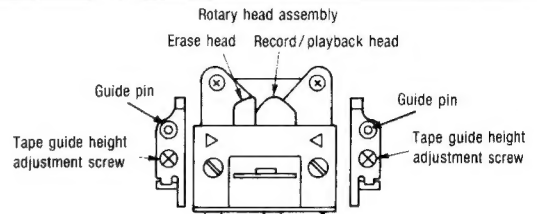

Fig. 2
1. Turn the tape guide height adjustment screw on the rotary head assembly counterclockwise until the upper end face of the tape guide are aligned on the same plane as the top face of their respective guide pins. (Refer to Figs. 2 and 3).